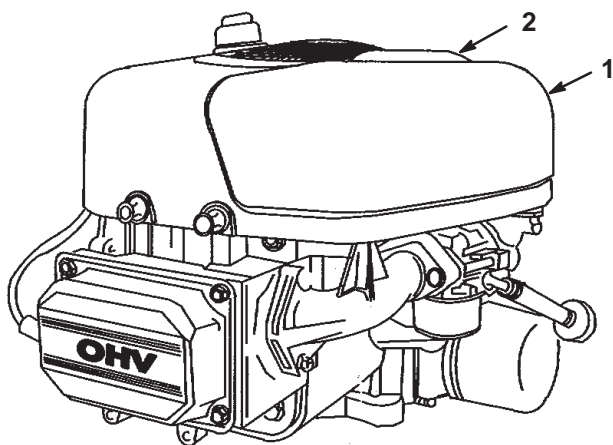

Figure 22
3. Clean around the air cleaner to prevent dirt from getting into the engine and causing damage. Pull up on the air cleaner cover handle and rotate it toward the engine (Fig. 22). Remove the air cleaner cover.